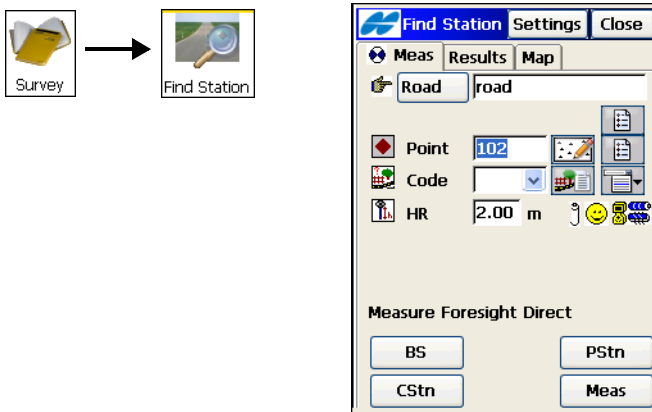

Figure 8-49. Find Station – Measurement Tab
1. To start working, tap **Survey ► Find Station** (Figure 8-49).
3. Enter the road, the name and the code of the point and the height of the rod (target) (Figure 8-49 on page 8-45).